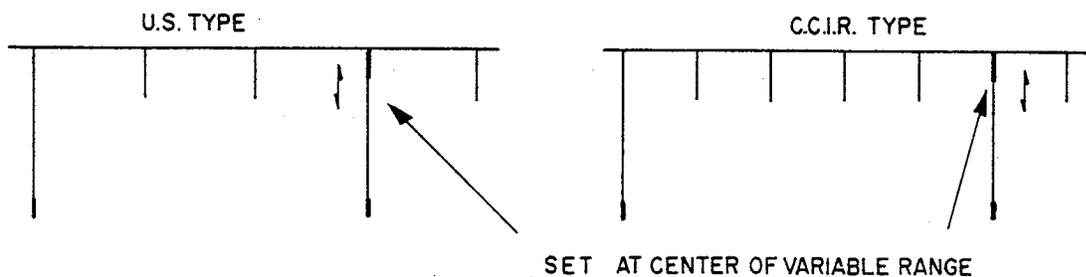

Fig. 9
- (d) Because the waveform which appears at TP-5 is as shown in Fig. 9, adjust VR-4 so that triggering takes place at the 3rd pulse (C.C.I.R. Type 5th pulse). In this case also set VR-4 so that the overlapping bright pulse at the 3rd pulse (or 5th pulse) is at the center of the variable range.